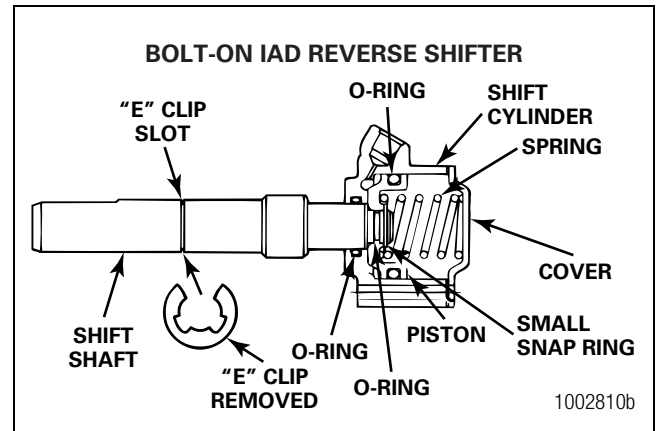

Figure 5.64
1. Lubricate all the parts with axle lubricant. Figure 5.64.